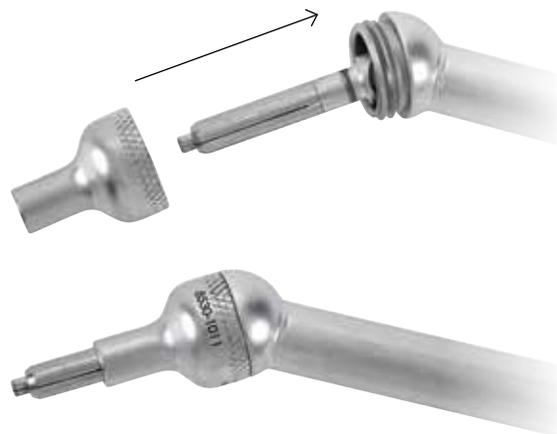

Figure 22:
- For screw insertion using angled instruments, insert the u-joint driver split tip into the u-joint sleeve, thread the u-joint driver tip onto the end of the sleeve, and assemble on to the ratcheting straight handle or ratcheting T-handle (Figure 22).